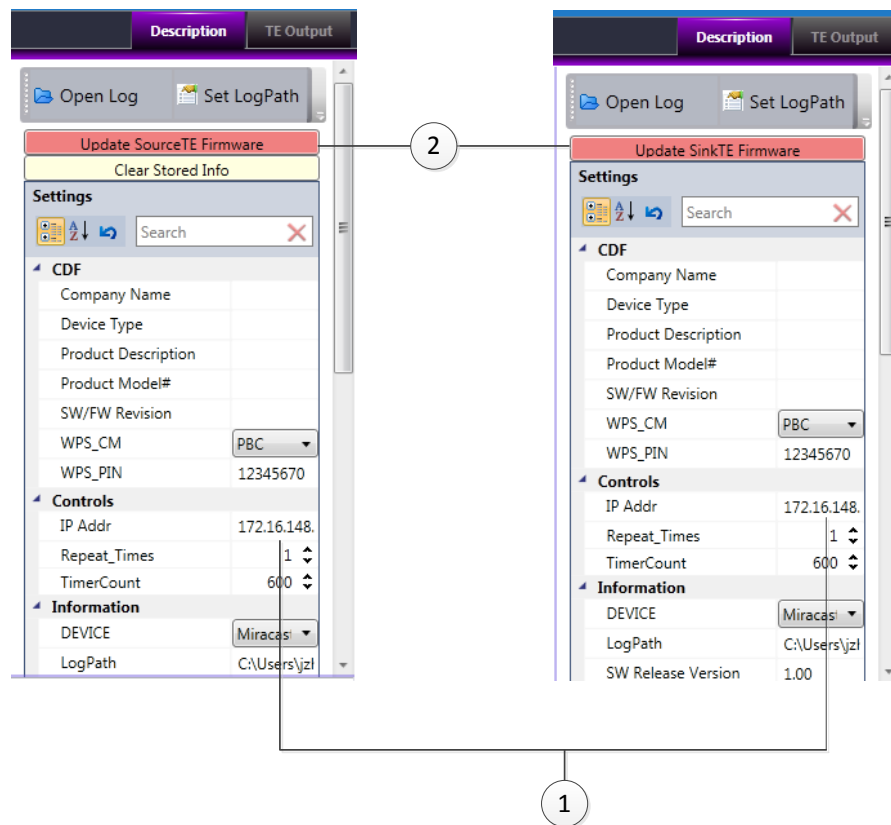

Figure 1.13. Enter IP Address in the HDCP 2 IIA Protocol Analyzer GUI
1. Manually enter Source or Sink board IP address. See area 1 of Figure 1.13.
2. Click the Update SourceTE Firmware button or the Update SinkTE Firmware button. See area 2 of Figure 1.13.